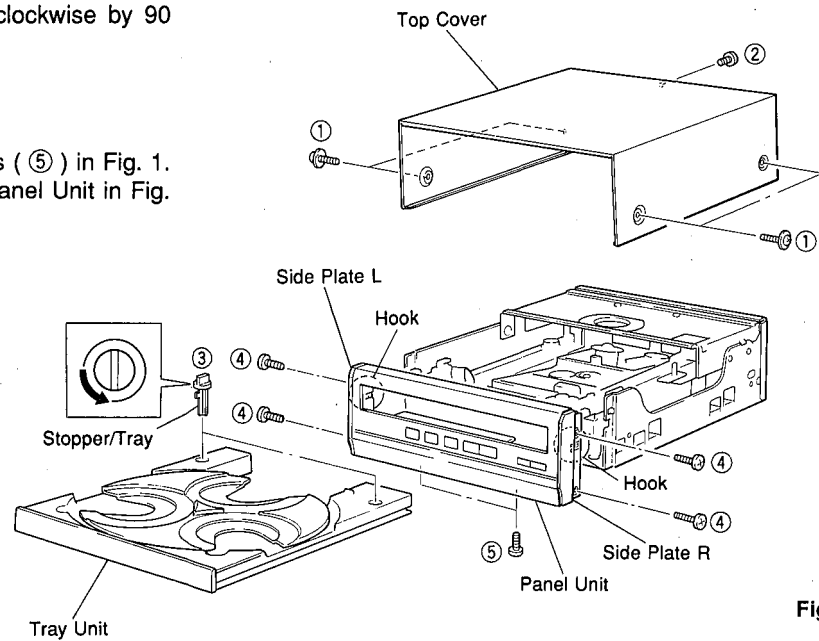

Fig. 1
Remove 4 screws (1) and 1 screw (2) in Fig. 1.
- Turn the stopper/tray (3) counterclockwise by 90 degrees to pull it out in Fig. 1.
- Remove 4 screws (4) and 2 screws (5) in Fig. 1.
- Remove 2 hooks and then pull the Panel Unit in Fig. 1.